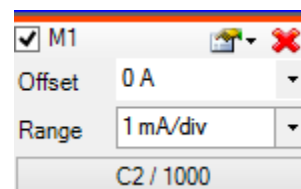

Figure A-10
- Add a custom channel and set it up to display Channel 2 divided by 1000 (which will be the current). When you do this you should see that the scale for this custom channel is still in Volts. We need to change that. The display scale window should look like Figure A-10. To change the units to Amps, open the drop-down menu just to the left of the X in the upper right. At the bottom of the next menu you will find a place to change the units to Amps. You will still be able to select the number of Amps per division in the range menu of Figure A-10. Set up the display to show 1mA/div as shown. Now you should be displaying the diode current in your plot.